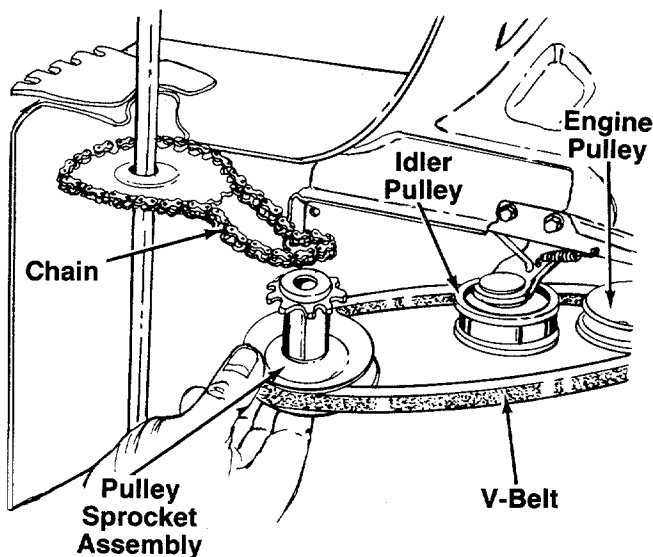

FIGURE 21.
11. Lift the chain off the sprocket as shown in figure 21. Lift the V-belt off the pulley sprocket assembly.
12. Lift the V-belt off the engine pulley and idler pulley. See figure 21.